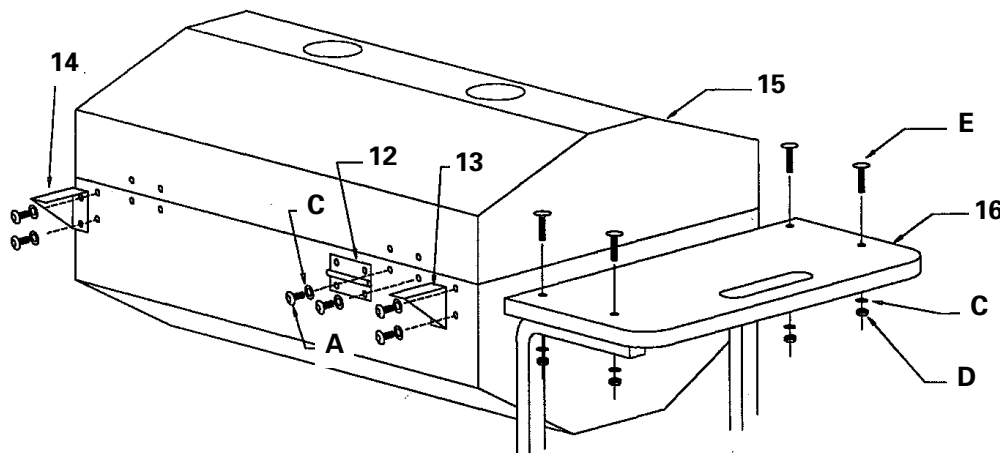

Figure 4
4. Refer to Figure 4. Select the following parts for assembly:
- 5. Refer to figure 4. Select the two shelves (part 16), and using four carriage screws "E", lockwashers "C" and hex nuts "D", attach the shelves to the outer ends of the legs.